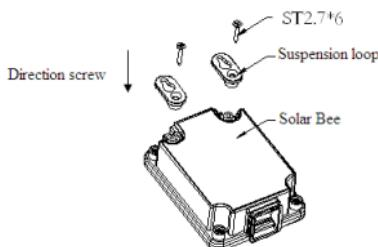

Fig 2-3 Suspension loop installation
- 1) Use the ST2.7\*6 screws to fix two suspension loops onto the pillars of Solar Bee. Fig 2-3 as below